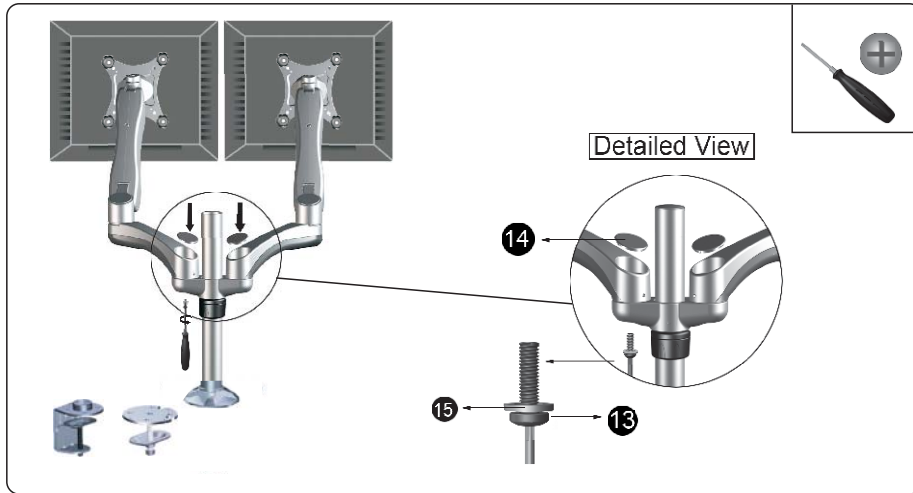

Figure 3-3
3. Place the Cover (14) and tighten with Phillips Screw M6x12mm (13) and Plastic Washer (15) using Phillip Screwdriver. Do not over tighten. This is to prevent the Articulating Arm Assembly to be lift unnecessary. (See Figure 3-3)